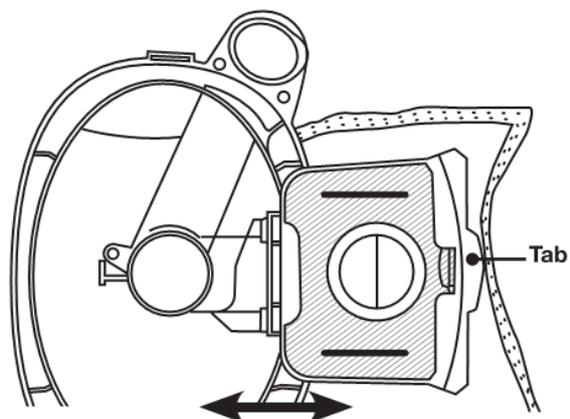

Fig 2
3. Pull the tab on the **HEPA** dust bag holder out slightly and flip upwards (Fig. 2).
4. Holding the **HEPA** dust bag in your hand, slide it firmly between the slots in the bag holder (Fig. 2).